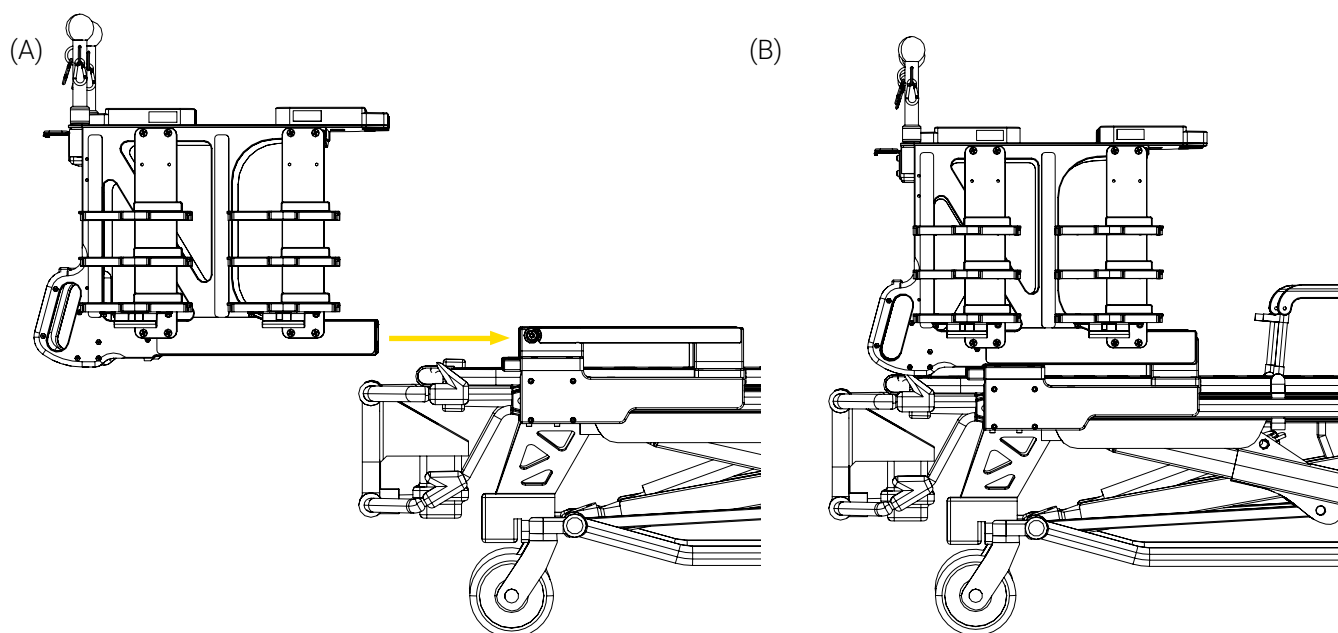

Figure 41: Installing the mobile structure on the XTPA-PPXT Rail System
9. Align and install the mobile structure on the XTPA-PPXT Rail System (Figure 41), then move the mobile structure back and forth a few times using the handles, until the gliding feels fluid and you no longer feel resistance.